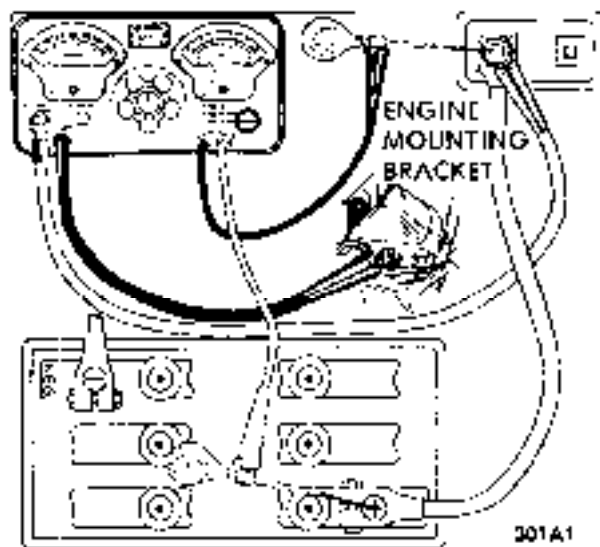

Figure 1A-1 Battery Cable Test Connections
2. Connect ammeter positive lead to post on starting motor. Connect ammeter negative lead to one side of rheostat and connect other side of rheostat to ground on engine, preferably at point where battery ground strap is attached. In the instrument shown in Figure 1A-1, the ammeter and rheostat are connected in series inside the case.
3. Connect voltmeter negative lead to post on starting motor. Use prod with voltmeter lead, if necessary, to insure direct contact with the terminal stud. **Do not connect to the ammeter lead clip.** Attach a prod to voltmeter positive lead and apply the prod to center of battery positive post (Figure 1A-1.) Make sure that clips of voltmeter leads have clean metal contact with prods.